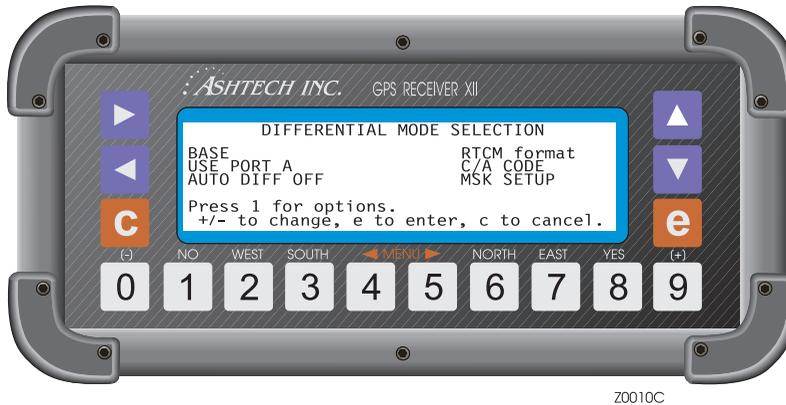

Figure 5.9. Differential Mode Selection Screen
On the differential mode selection screen, Figure 5.9 check that you have specified the output port correctly.
1. Highlight RTCM format on the Differential Mode Selection screen (Figure 5.9), and press **[1]** to access the RTCM Options.